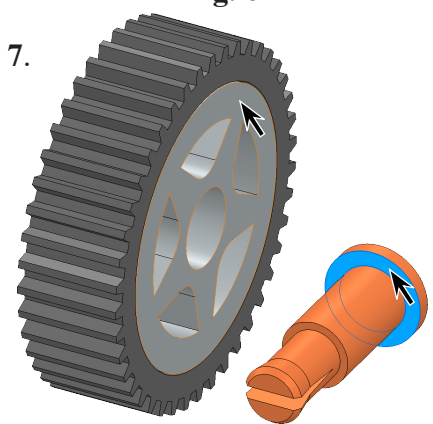

Fig. 7
Step 2. Click **bottom face of Axle hub** and **side face of Rim**, **Fig. 7**.